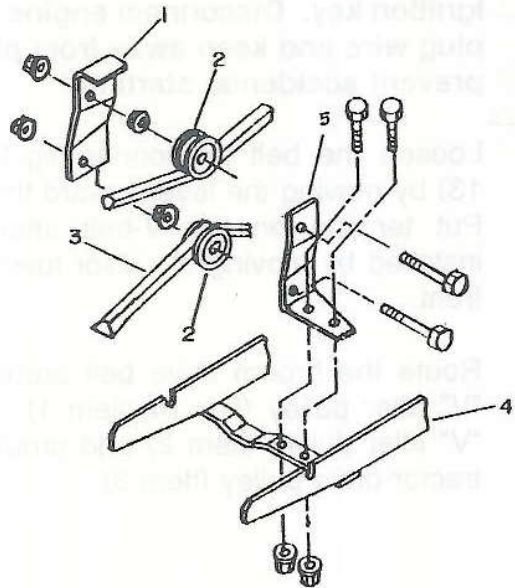
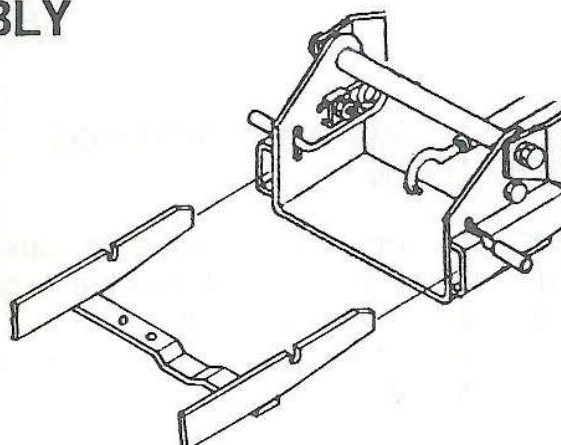

FIGURE 9
FIGURE 10
- a) Install the idlers support (fig. 9, item 5) on snowblower male hitch (item 4) using two 5/16 X 1" bolts and nuts.
- b) Remove the idler guard (item 1). Place the bottom section of the V-belt on top of the bottom idlers (item 3) and the top section of the V-belt under the top idler (item 2). Reinstall the guards, using 3/8" nuts, tighten securely.
- c) Attach the snowblower to the tractor subframe by placing the male hitch flat bar into the subframe's female channel hitch (fig. 10). Be sure the male hitch is entered to its maximum and is locked by the springs.
- a) Attach broom to the tractor subframe by placing the male hitch flat bar into the subframe's female channel hitch (fig.10). Be sure the male hitch is entered to its maximum and is locked by the springs.
- a) Attach the blade to the tractor subframe by placing the male hitch flat bar into the subframe's female channel hitch (fig.10). Be sure the male hitch is entered to it's maximum and it is locked by the springs.